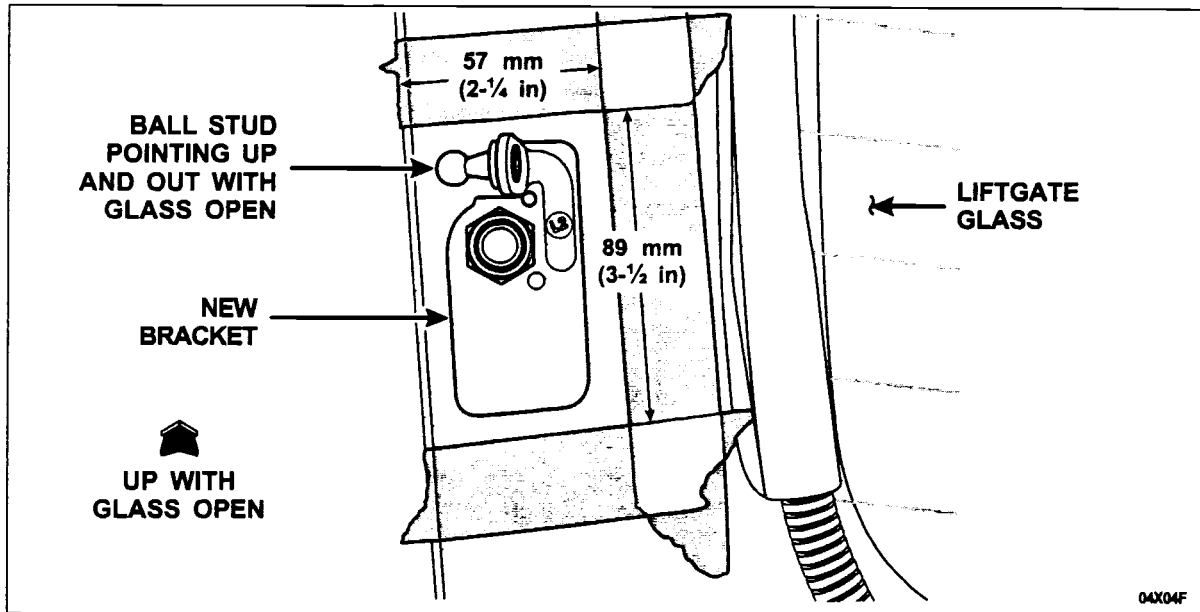

FIGURE 6
3. Hold the **new** bracket in position on the glass with the ball stud pointing UP and OUT (with the liftgate glass open). Mark the area around the bracket using masking tape or vinyl tape. Leave a space approximately 7 mm ($\frac{1}{4}$ in) between the edge of the bracket and the tape. The taped-off area should be approximately 57-mm ($2\frac{1}{4}$ in) wide and 89-mm ($3\frac{1}{2}$ in) high. See Figure 6 for proper placement and dimensions. After the tape is applied, remove the bracket. The tape will be used as an alignment guide, therefore, keep the tape in place until completing the final bracket alignment.